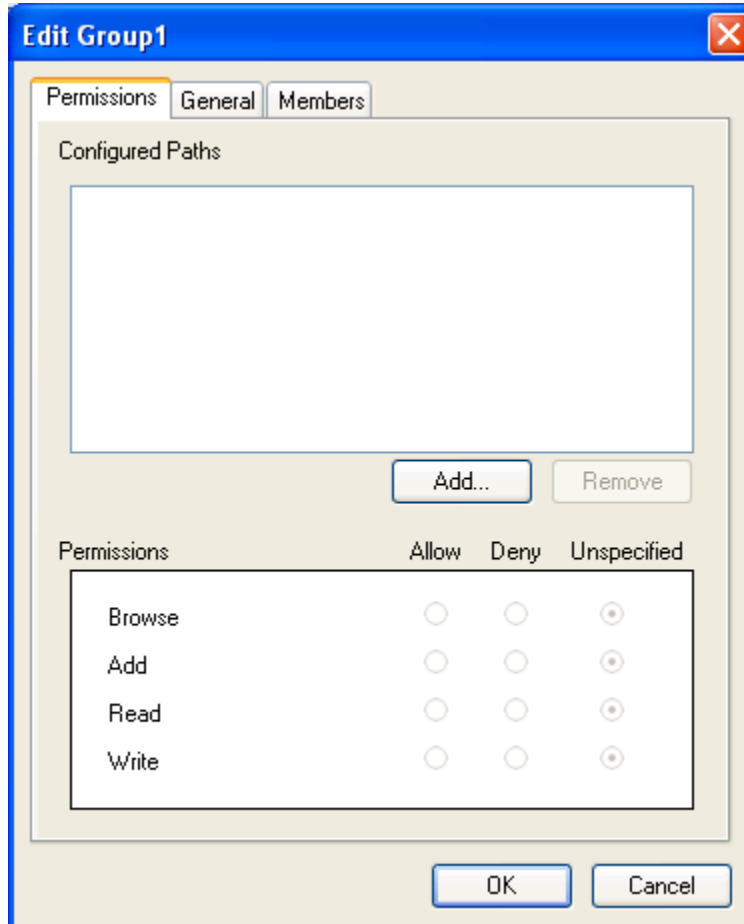

Figure 90 - Edit <Groupname> Window (Permissions Tab)
6. The **Edit <Groupname>** window (Figure 90) appears (for NT Groups, there is only the **Permissions** tab). Follow the instructions in the **Edit Group** section for adding permissions.
6. The **Edit <Groupname>** window (Figure 90) appears. Follow the instructions in the **Edit Group** section for adding permissions.
2. The **Edit <Groupname>** window (Figure 90) appears.